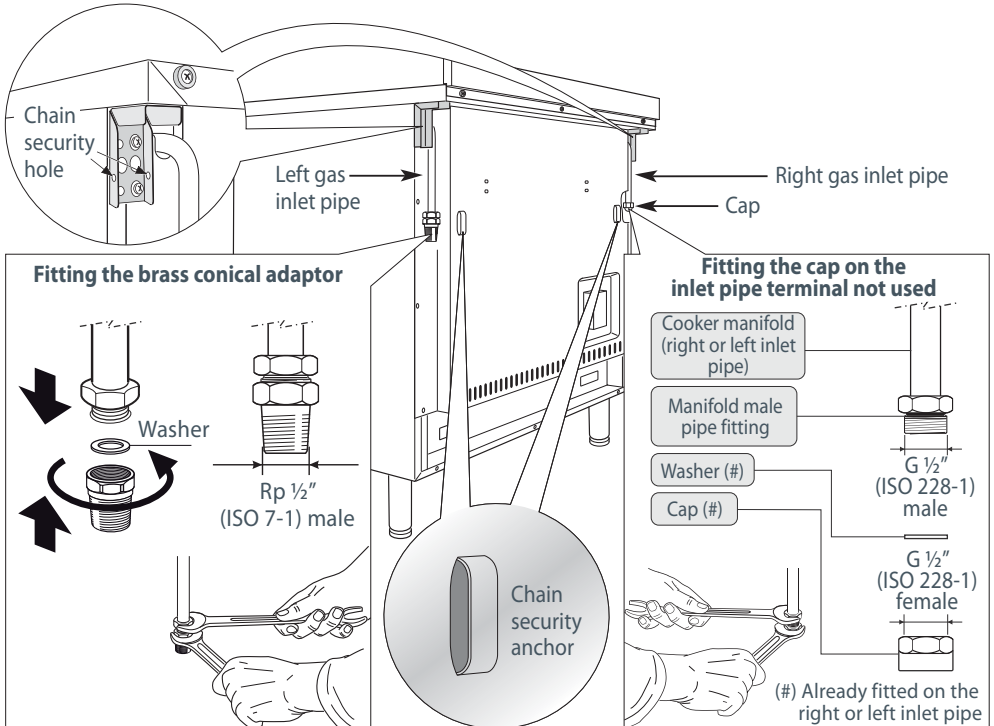

Fig. 13 Gas supply inlets
- Close off the unused inlet with the cap and sealing washer supplied (Fig. 13).
- **IMPORTANT:** Use two spanners to tighten or loosen the connecting pipe (Fig.13).
- It is important that the hose does not come in contact with the metal of the appliance and is secured as per appropriate gas installation codes. A chain 80% of the length of the flexible gas hose must be used to prevent stress being applied to the hose. The chain should be attached securely to the product where shown (see Fig.13), and on the wall.